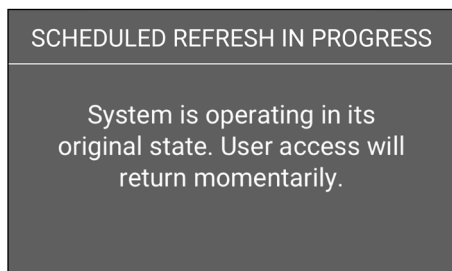

Figure 13. Scheduled refresh screen
2. The refresh screen will appear for several seconds and then the device will re-start into the state it was in prior to the refresh. (Fig. 13) The status lights will turn red during the duration of the reboot.